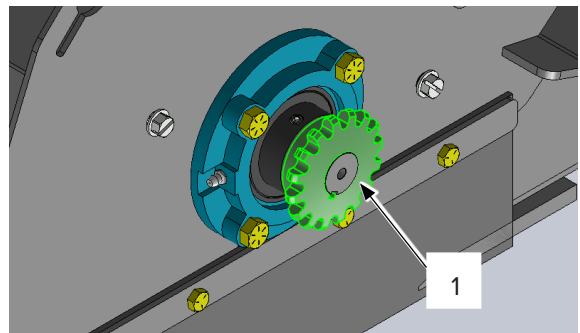

Figure 7
6. Remove the drive sprocket [Figure 7, Item 1].
6. Remove the shaft sprocket [“Figure 7” on page 21, Item 1].